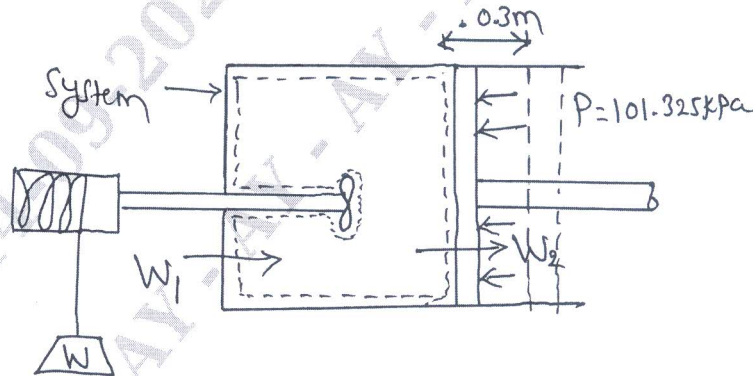

Fig.Q2(b)
- b. A piston and cylinder machine containing a fluid system has a stirring device in the cylinder as shown in Fig.Q2(b). The piston is frictionless, and it is held down against the fluid due to the atmospheric pressure of 101.325 kPa. The stirring device is turned 10,000 revolutions with an average torque against the fluid of 1.275 MN. Mean while the piston of 0.6 diameter moves out 0.8 m. Find the net work transfer for the system.